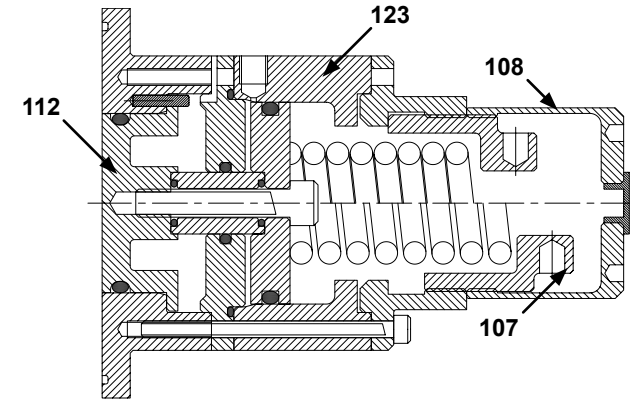

FIGURE 13
Spring loaded with airlift - see Figure 13.
- Loosen nut (107) using a pry bar in the holes provided, to relieve spring compression. For integral relief valve with airlift, see Figure 13, the air cylinder must be exhausted prior to unscrewing the nut (107).
- Screw in nut (107) using pry bar in holes provided until required pressure relief setting is reached.
For Integral Relief Valve with airlift - see Figure 13.